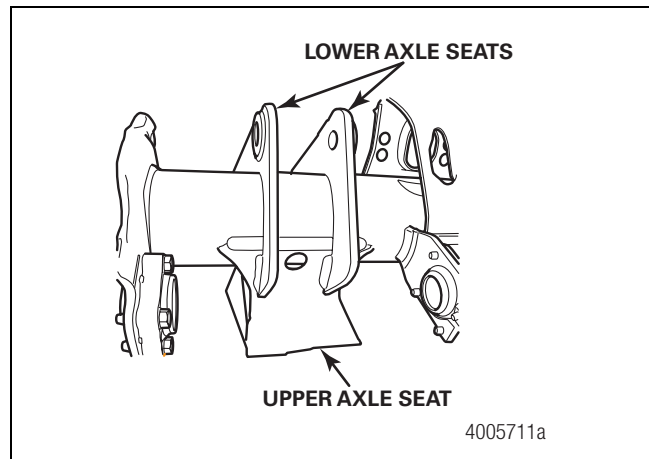
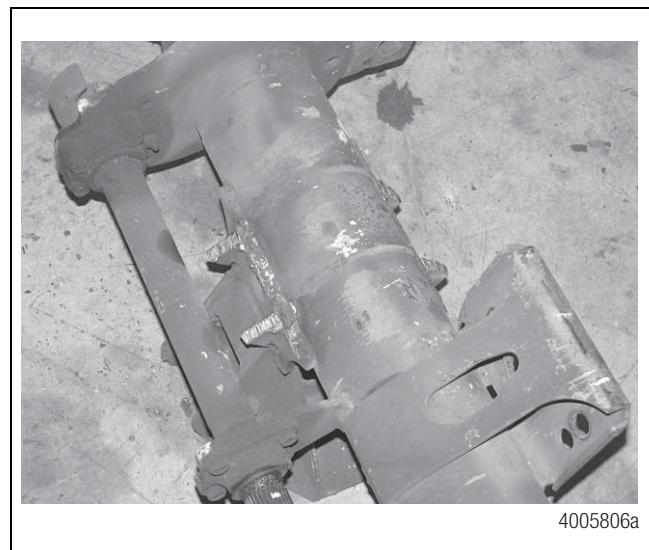

Figure 8
Figure 9
1. Use an air-arc or torch to remove the lower axle seats. Note that the lower axle seats will be facing UP and are welded to the upper axle seats. Figure 8 and Figure 9.